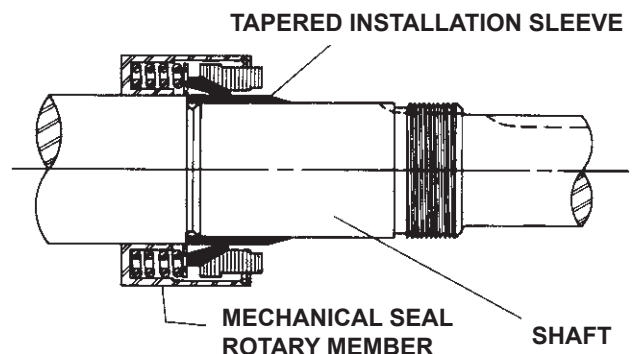

FIGURE 5
2. Place tapered installation sleeve on the shaft. Coat tapered sleeve and inside of the rotary member with a generous quantity of light oil. Grease is not recommended. Start rotary member on shaft and over tapered sleeve. **Refer to Figure 5.**